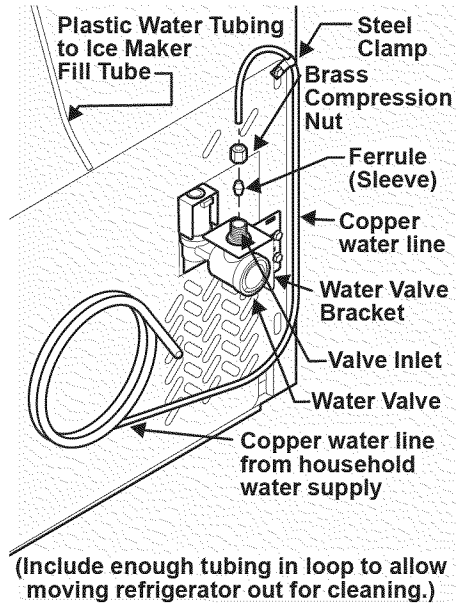

Figure 1
- 4 If you use copper tubing - Slide brass compression nut, then ferrule (sleeve) onto water supply line. Push water supply line into water valve inlet as far as it will go ($\frac{1}{4}$ inch/6.4 mm). Slide ferrule (sleeve) into valve inlet and finger tighten compression nut onto valve. Tighten another half turn with a wrench; DO NOT over tighten. See Figure 1.